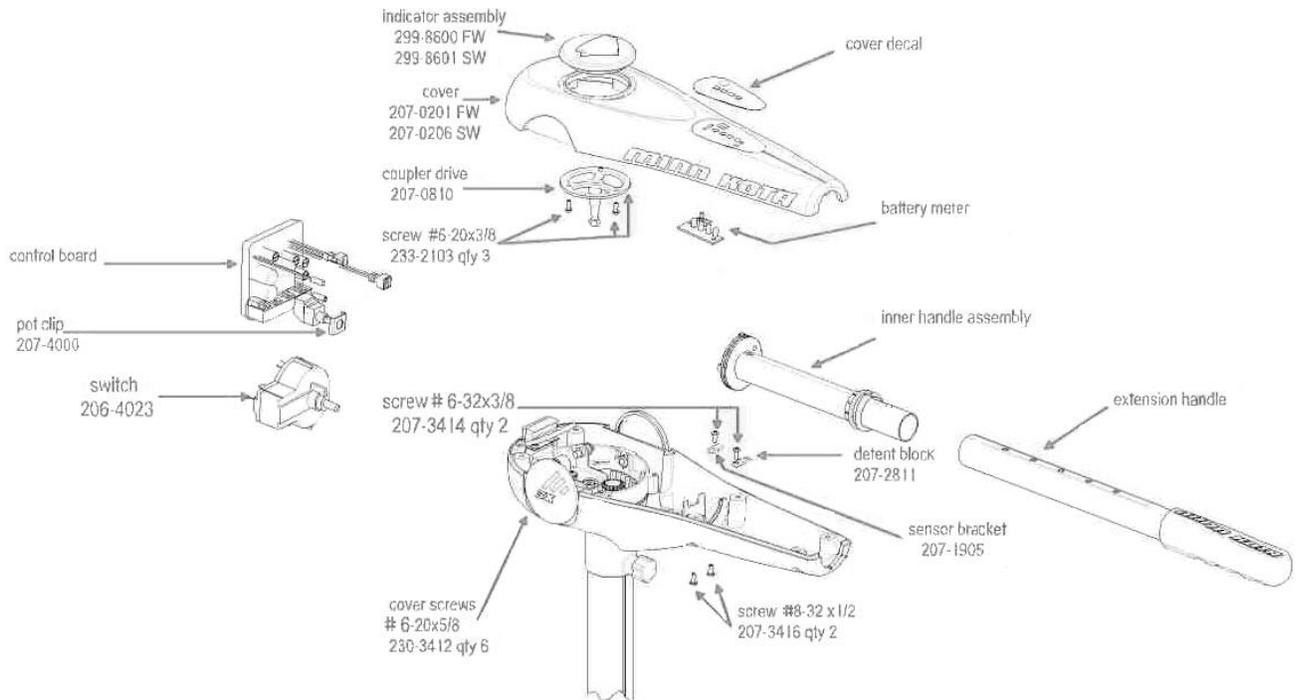

Fig. 3
- Step 1.** Start by removing the extension handle from the inner handle by pressing down on the handle by pressing down on the handle latch / detent button located on the top side of the handle near the control box. With latch button depressed, slide the extension handle off and clear of the inner handle. (see **Fig. 3, page 4**)
- Step 2.** Remove the six Phillips, pan head screws (#6-20 x 5/8") located on the underside of the control box assembly. (2 screws at front, middle, and rear of control box) (see **Fig. 3, page 4**)
- Step 3.** Lift up the inner handle assembly along with the handle pivot, handle bearing, and potentiometer (variable-speed motors) or speed selector switch (5-speed motors). Disengage the inner handle assembly from the "D" shaft on the potentiometer/switch, remove the inner handle, and set it aside for reassembly. (see **Fig. 3**)
- A-2.** On variable-speed 3X models, loosen the Phillips pan head screw (P/N 2073414, #6-32 x 3/8") holding the P/N 2071905 sensor bracket in place. (Sensor bracket is located in control box along side the potentiometer support.) Loosening the screw allows removal of the magnetic on/off reed switch attached to wires exiting the control box. (On/off reed switch is the small 5/8" long, 3/16" diameter black cylinder with 2 small black wires attached.) Then remove the two P/N 2073416, #8-32 x 1/2" socket head cap screws (located in recessed openings on the underside of the control box) using a 9/64" allen wrench/driver. The control board is then free to be removed. (see **Fig. 3**)
**Step 10.** Re-install the control board or 5-speed switch using the fasteners or parts removed during disassembly. (see Fig. 3, page 4)